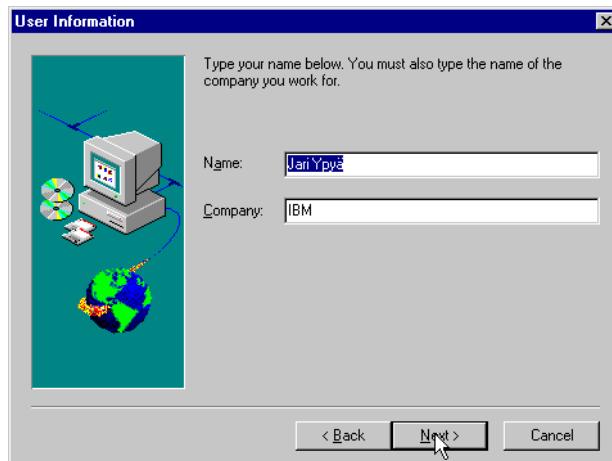

Figure 17. User Information
7. Type in the user information in the window shown in Figure 17 on page 45.